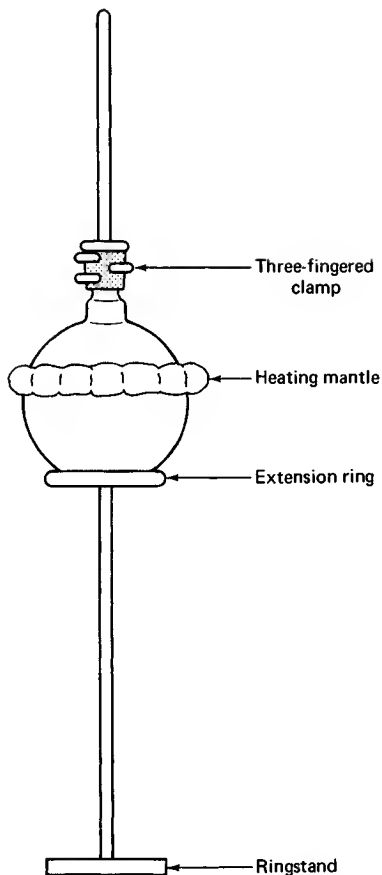

Fig. 68 Flask and heating mantle out on a ringstand.
2. Clamp the flask (around the neck) a few inches up the ringstand (Fig. 68). *We are* using heating mantles and you'll need the room underneath to drop the mantle in case it gets too hot. That's why the flask is *clamped at the neck*. Yes. *That's where the flask is ALWAYS clamped, no matter what heat source*, so it doesn't fall when the mantle comes down. What holds the mantle? Extension ring and clamp fastener.